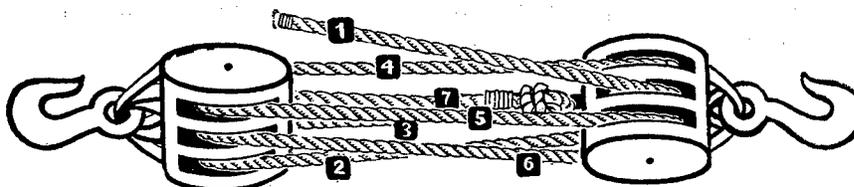

FIGURE 5.—Reeving—triple and triple.
- a. Lay blocks and follow numbered steps in figure 5.